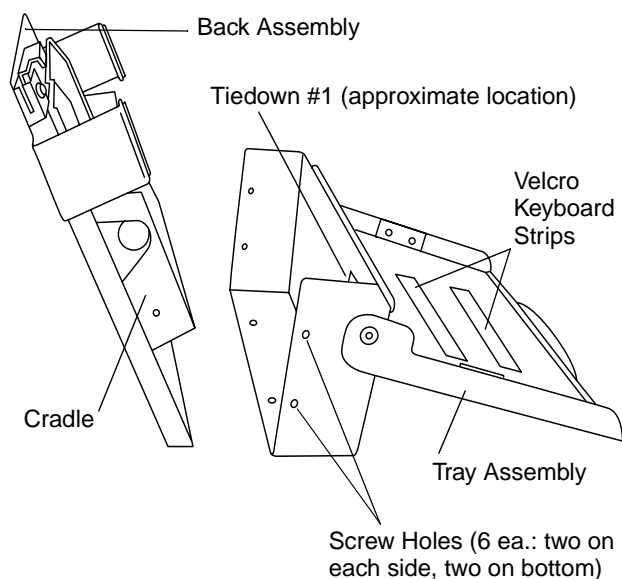

Figure 3. Wall Mount Components
6. Carefully position the keyboard over the strips so that the bottom edge of the keyboard butts against the lower lip of the tray. Once it is positioned properly, firmly press the keyboard onto the Velcro strips to secure it (reference Figure 3).
9. Tie down the cable at the first tie point using a Ty-Wrap from the hardware kit. The tie point is located just below the top edge of the tray (reference Figure 3 for approximate location). Clip any excess Ty-Wrap with the cutting pliers.
- Carefully position the back assembly inside the tray assembly so that the six holes in each are aligned (reference Figures 3 and 6). Use care when joining the two assemblies; ensure that no wires or cables are crimped between the two parts.